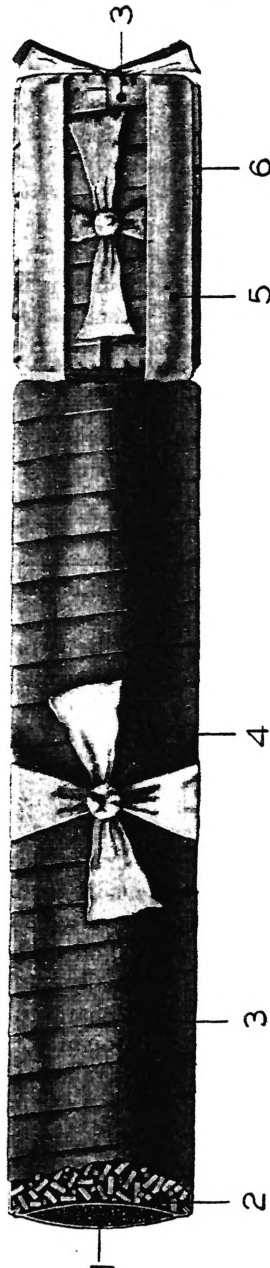

FIG. 17.—155-mm. gun cartridge bag
**21. Type of charge.**—*a. Description.*—(1) The cartridge bags containing the propelling charge for 155-mm. guns are known as the “base and increment type,” in that they consist of a base section and one increment section, permitting two zones of fire. The base section contains an igniter pad, holding 8 ounces of black igniting powder. This igniter pad forms the rear end of the base section. Four tying straps are sewed to the front end of the base section, by means of which the increment section is attached to the base section, thus forming a unit of the full propelling charge. Both the base section and the increment section are wrapped spirally to make the bags firm and compact for handling. The full charge is shown in Figure 17.